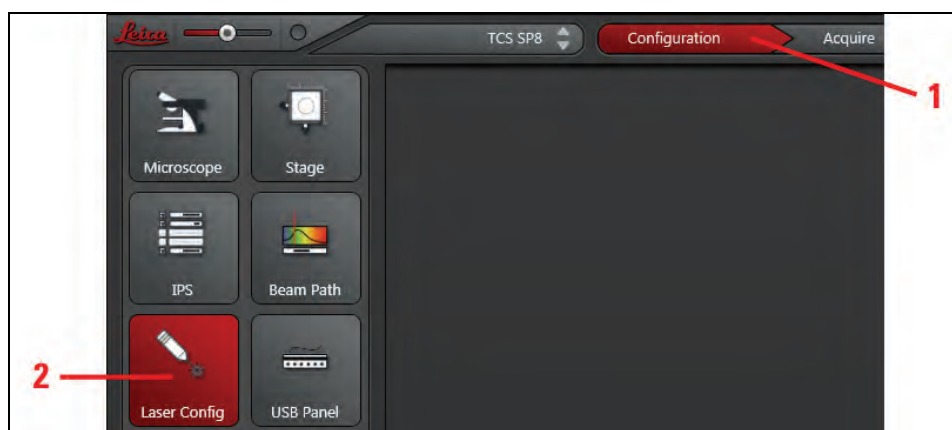

Figure 94: LAS AF configuration window
2. Select the **Laser Config** button (**Figure 94**) and enable the desired laser with the allocated check box (**Figure 96**).